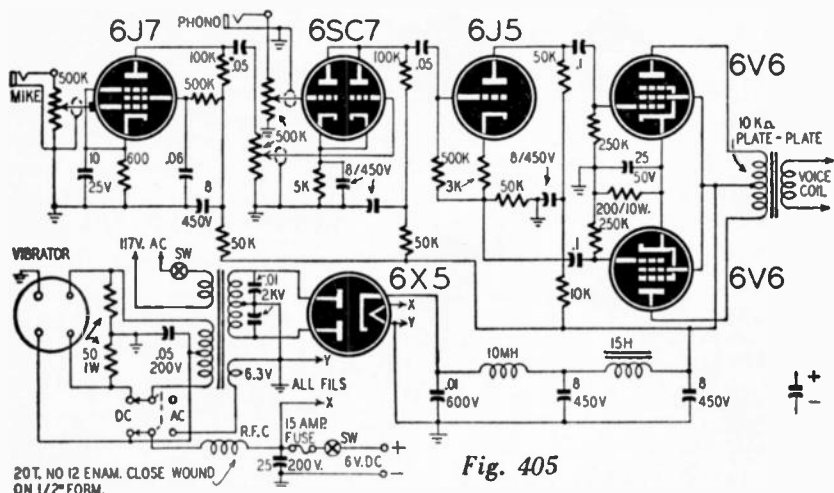

Fig. 405
A. Fig. 405 is drawn to meet your specification. It uses a 6J7 mike amplifier, 6SC7 phono amplifier-mixer, 6J5 phase inverter, and push-pull 6V6's operated in class AB₁ with 14 watts output.